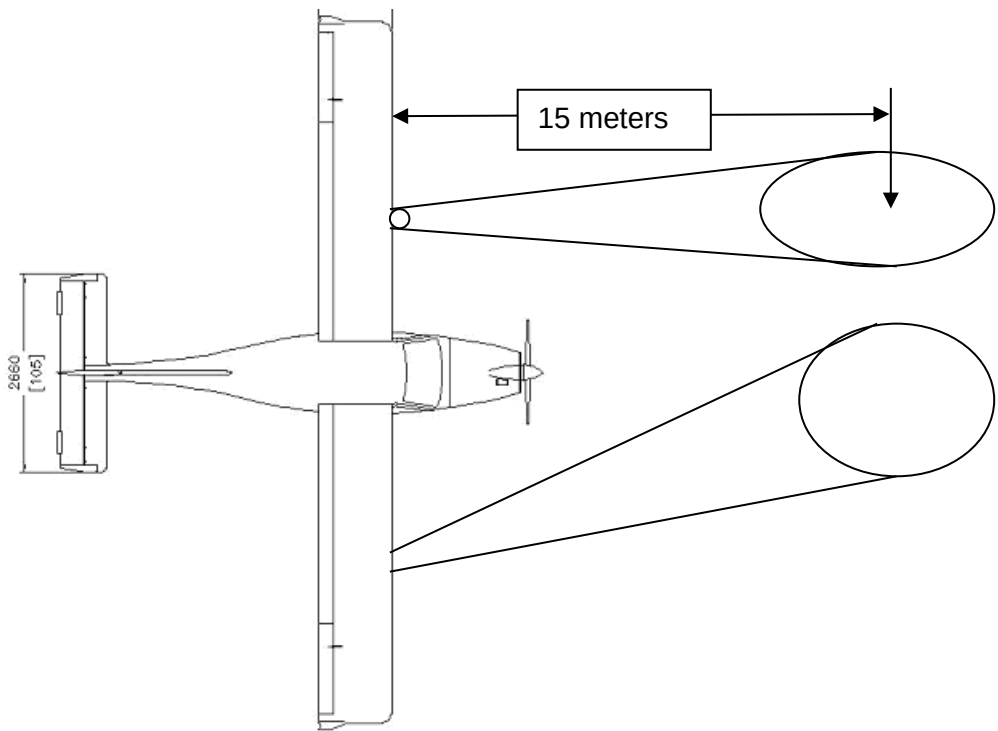

Figure 70 – Night-VFR Lighting Aim Diagram (all J-Series)
- Aim the lights at the focal points given in Figure 70. Lock the position of the lamp by tightening the screws once aiming is complete.
- Ensure that when the “TAXI” light is selected the light shown on the right of Figure 70 illuminates – i.e. the TAXI light is aimed to shine on the centre of the taxiway 15m in front of the aircraft. The LANDING light is aimed straight ahead.